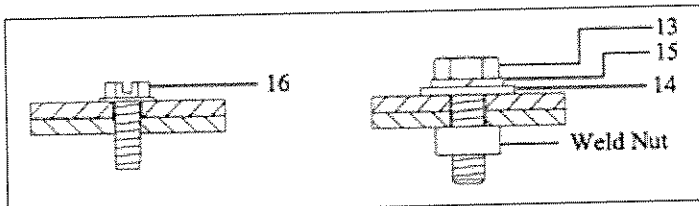

Figure 22. Assembly Hardware.
- Using the 0.25" cap screws and washers (see Figure 22), loosely fasten a wide vertical panel (1) or a wide vertical panel with opening (2), if placing suspended duct in this location, to the rear of the switchgear roof at the left end of the switchgear lineup. Two loose screws in each end of the lower flange are sufficient to hold the part in place temporarily. This is necessary to allow the mating parts to adjust while securing one part to another.
- Using the 0.25" cap screws and washers, loosely fasten one narrow vertical panel (3) to the left rear corner of the switchgear roof.
- Using the 0.25" self-tapping screws (Figure 22), fasten the narrow vertical panel (3) to the wide vertical panel (1) along the vertical flanges, or the narrow vertical panel (3) to the wide vertical panel with opening (2) if placing the suspended duct in this location.